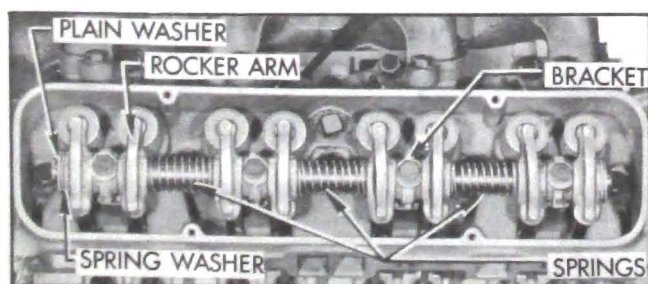

Figure 2-21—Rocker Arm Shaft Assembly
4. Assemble springs, rocker arms and brackets as shown in Figure 2-21. Note that two different rocker arms are used and that the valve ends of the rocker arms slant away from the brackets.